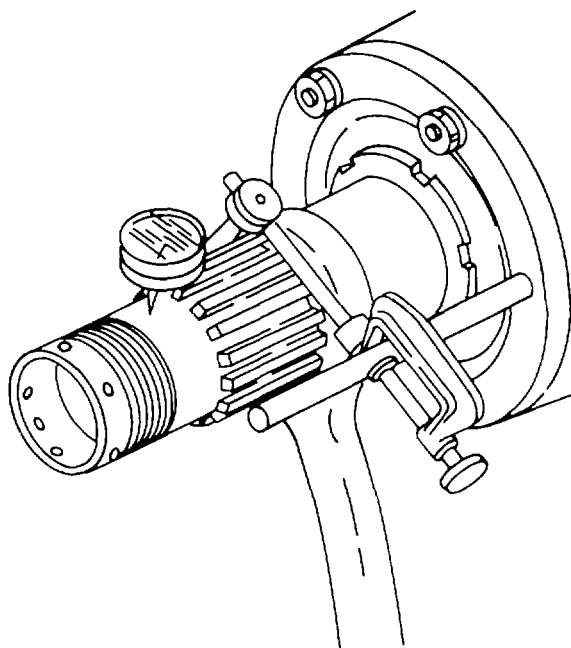

Figure 3-76. Checking Propeller Shaft Run Out
- (1) Remove propeller.
- (2) Remove one of the nuts securing thrust bearing cap to reduction gear assembly and install a reversible type dial indicator on the long stud from which the nut was removed (see figure 3-76).
- (3) Adjust dial indicator so that arm point is on propeller shaft at front cone location.
- (4) Rotate propeller shaft and note total indicator movement. The maximum allowable runout at front cone location is found in the applicable aircraft maintenance manual.
- (5) Adjust dial indicator so that arm point is on propeller shaft rear cone location.
- (6) Rotate propeller shaft and note total indicator movement. The maximum allowable runout at rear cone location is found in the applicable aircraft maintenance manual.